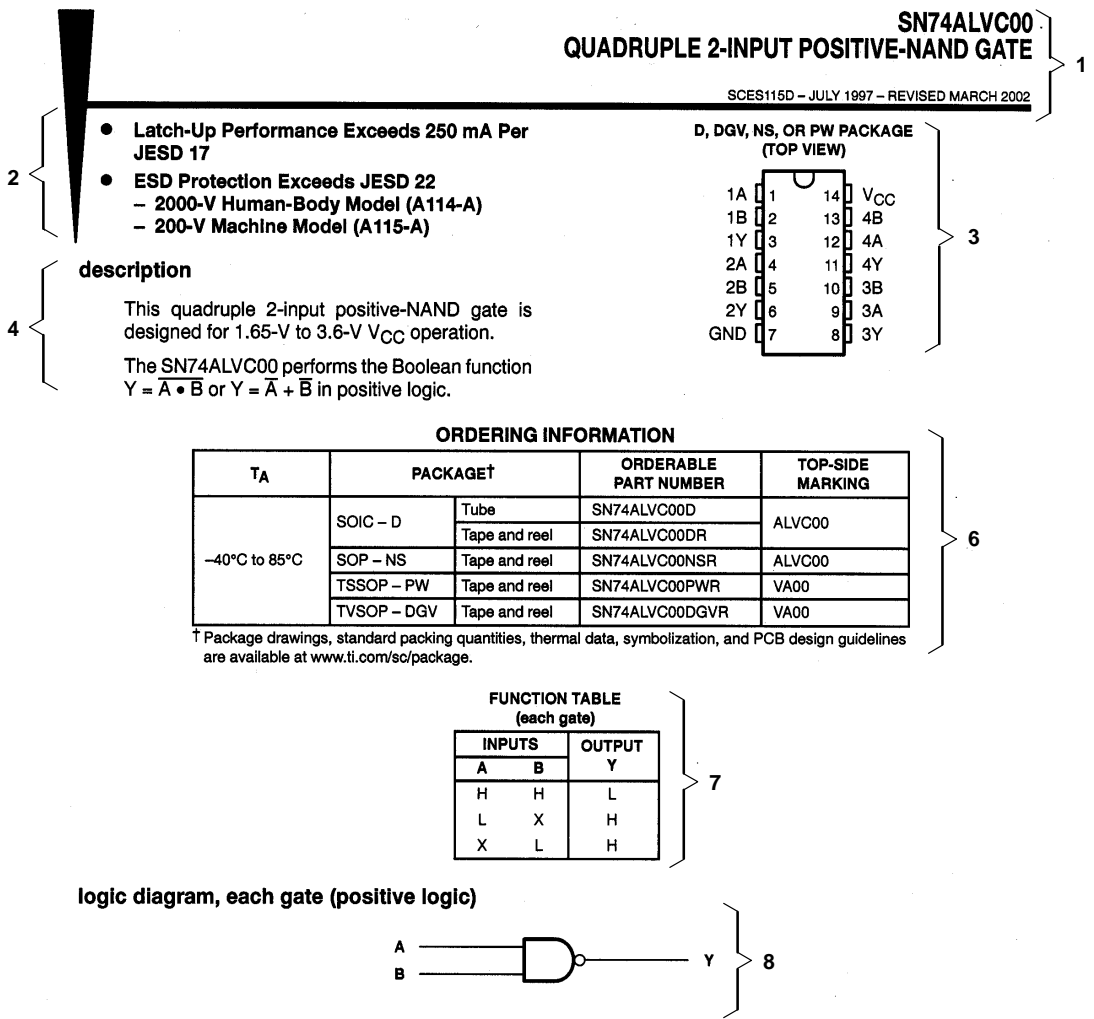

Figure 1. Example of Summary Device Description
The first section of a data sheet contains all of the general information about a device (see Figure 1). This information includes:
5. BGA packaging top-view illustration and terminal assignments table, if applicable (not illustrated in Figure 1)